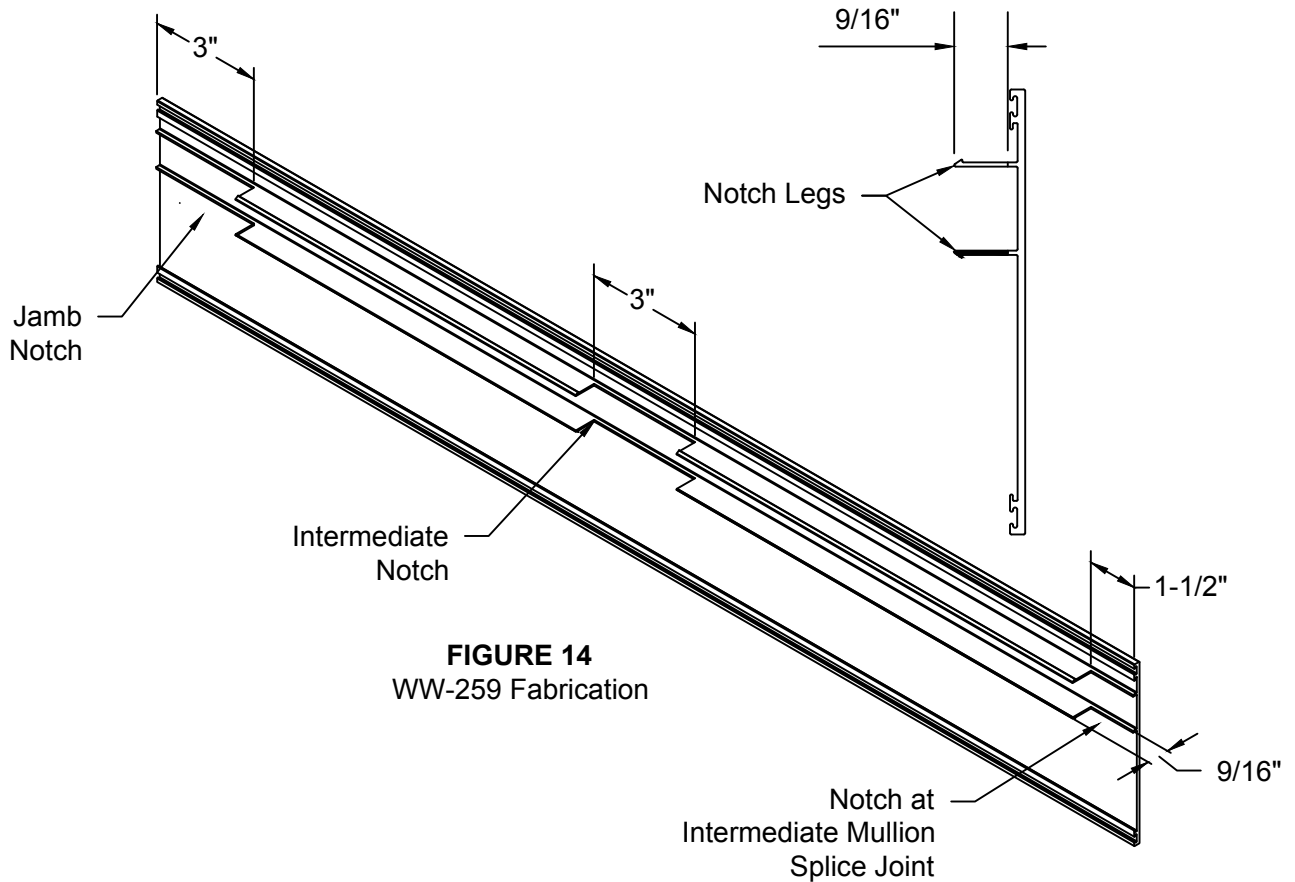

FIGURE 14
- 1.19 When using the optional WW-583 (WW-483) upper horizontal a WW-259 interior snap on cover will be required. The cover must be notched to clear jamb mullions and intermediate mullions. Ends of cover will be notched 3" at jambs to extend to edge of jamb. If cover is ran to cross vertical mullions then a 3" notch will also be fabricated at these locations. Where the cover needs to be spliced at intermediate mullions the notch will be 1-1/2" long and cover will be cut mullion centerline minus 1/16" to form a 1/8" joint. See FIGURE 14 below for fabrication and FIGURE 15 for butt joint.